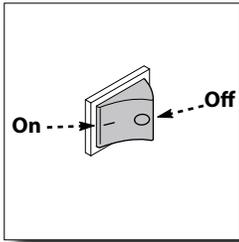

Fig. 12
Make sure the “ON/OFF” switch is in the “OFF” position. The power switch has international symbols for ‘on’ and ‘off’: On (–) Off (O), (Fig. 12).